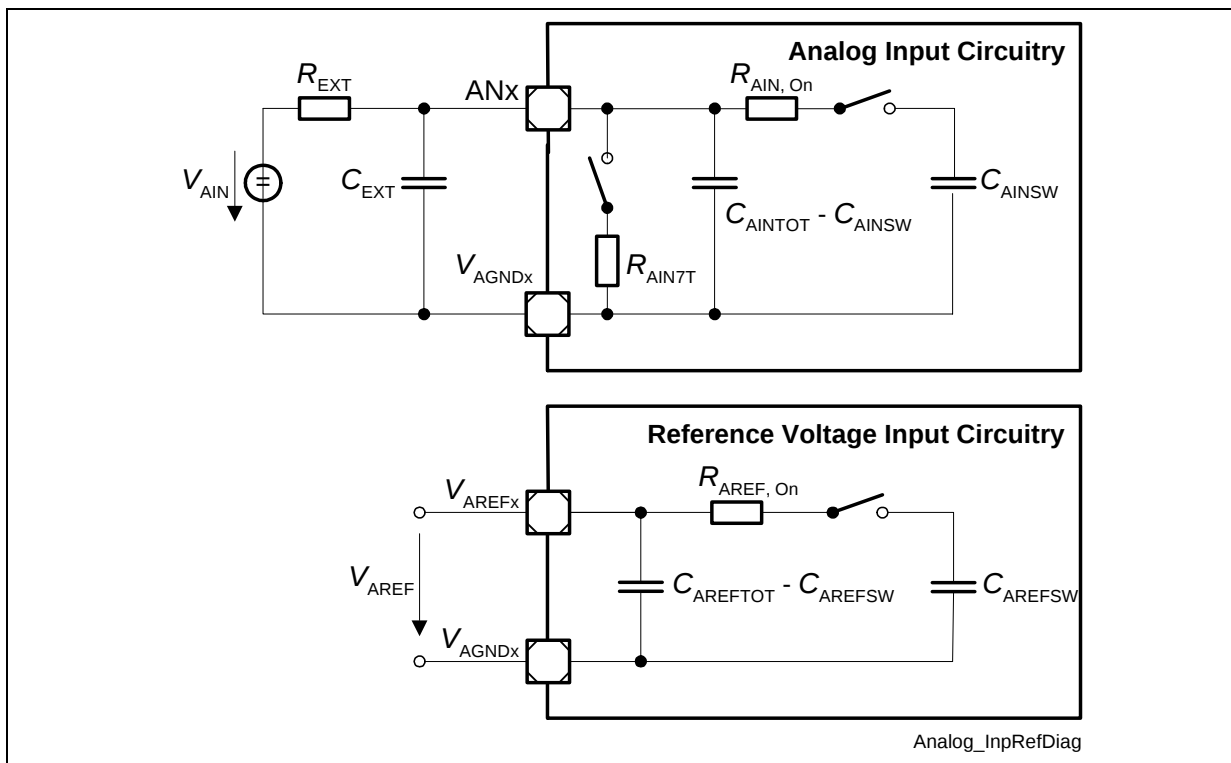

Figure 19 ADC0/ADC1 Input Circuits
- 15) For the definition of the parameters see also Figure 19.